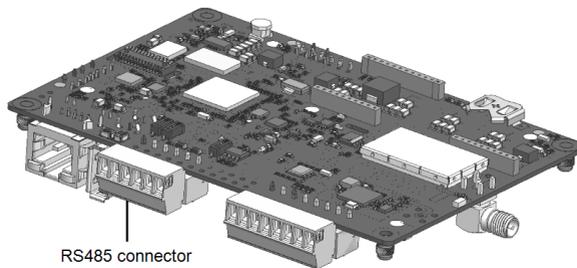

Figure 27: RS485 terminal block on the communication board
3. Pull out the 6-pin RS485 terminal block connector, as shown in *Figure 27*.